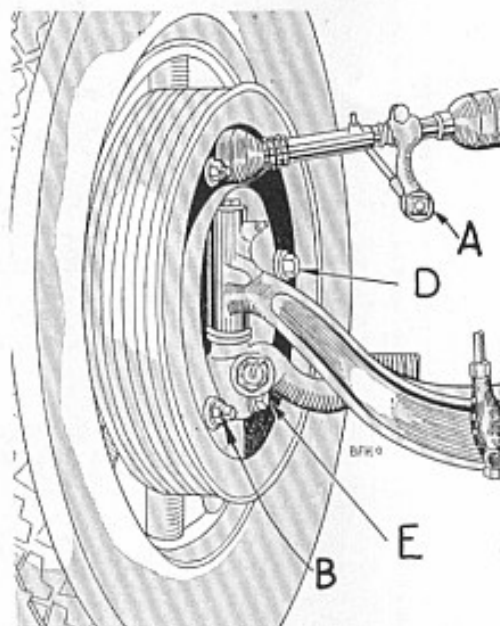
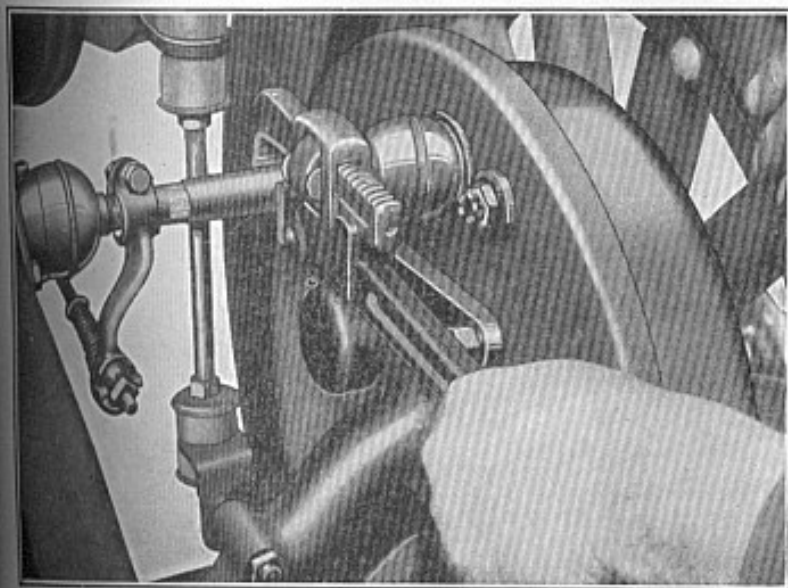

Fig. N18. Frame side of backing plate showing various adjustment controls
Fig. N20. Applying front brake with pipe wrench for resetting cam operating lever. Note lever is off serrations
1. Loosen eccentric adjustment lock (B, Fig. N18, Page 51) and turn eccentric in direction wheel revolves when car moves forward until secondary shoe is tight against drum. Then back gradually until wheel is just free
- Loosen operating lever clamp bolts (Fig. N20) and slide levers off serrations.
3. Take up on each ball nut (A Fig. N18) until wheel just drags. Back off until just free.
6. To adjust anchors: Jack up all four wheels. Turn eccentric adjustment (B, Fig. N18) away from articulating pin and leave loose. Slacken anchor pin nuts free of lock washer. Tap both anchors out toward edge of drum. Hold brake on tight by 100-pound load on the end of a 10-in. pipe wrench. See Fig. N20. Tap anchor on end and still holding brake